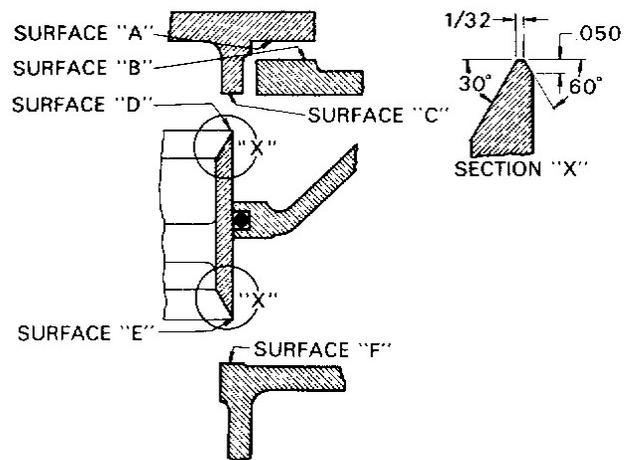

Figure 7
5. Machine a very light amount from seating surfaces C, D, E and/or F (See Figure 7).